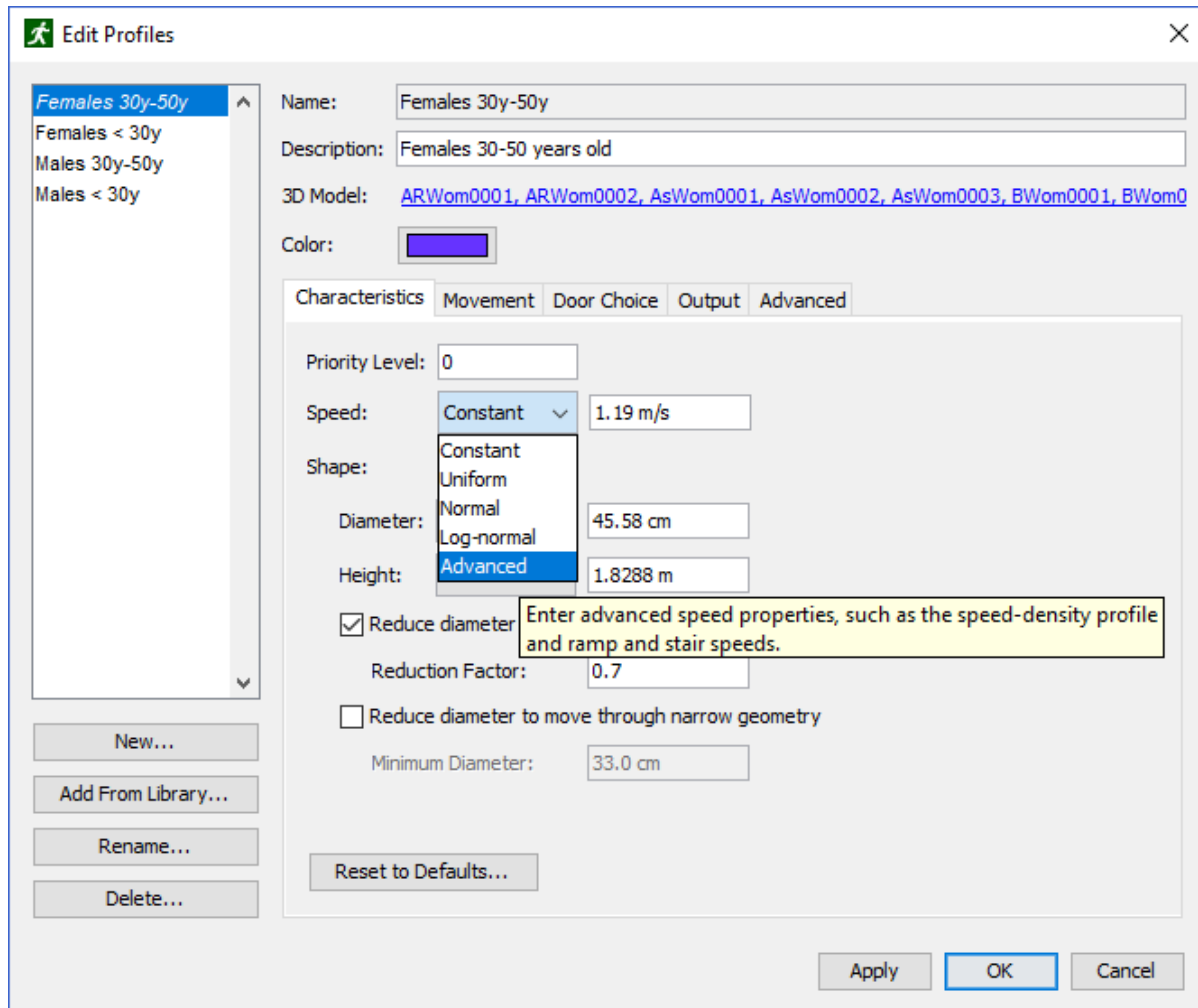

Figure 91. Editing advanced speed properties
3. Next to **Speed**, click the drop-down box and select **Advanced** as shown in Figure 91.